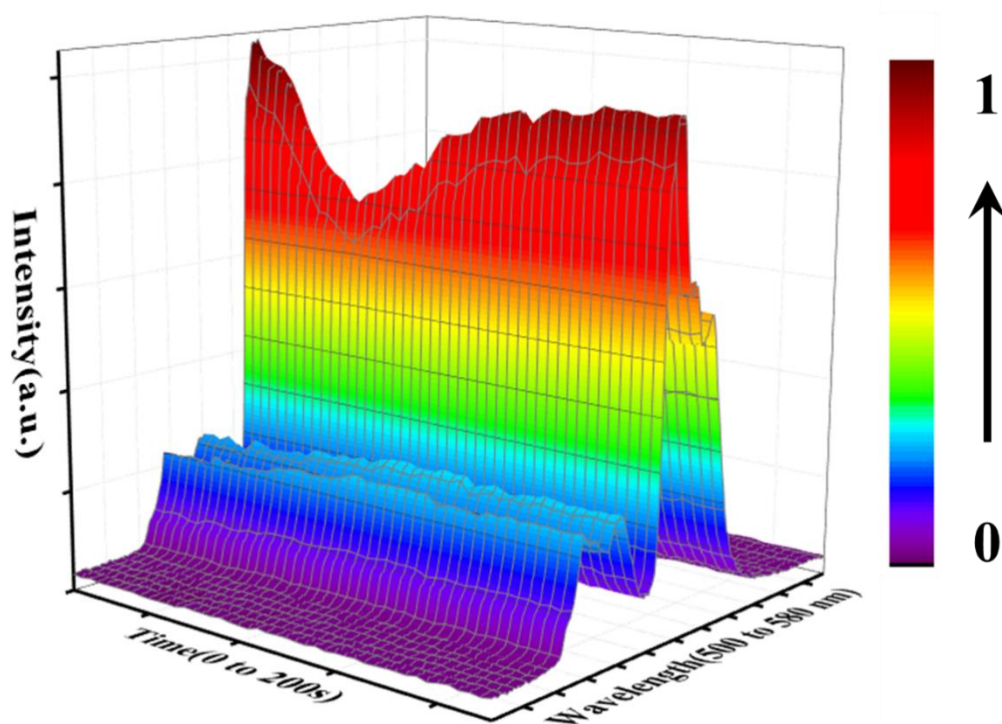

**Figure S9** Schematic diagram of the chip surface temperature sensing device based on UCNPs/PDMS composite optical film temperature measurement.
9. Figure S9. Chip temperature monitoring setup diagram .....	S-7